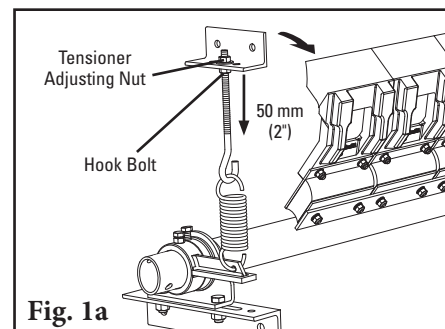

Fig. 1a
**For spring tensioners.** Loosen the hook bolt lock nuts and back off the tensioner adjusting nuts 50 mm (2") to allow the tips to move away from the belt (Fig. 1a).